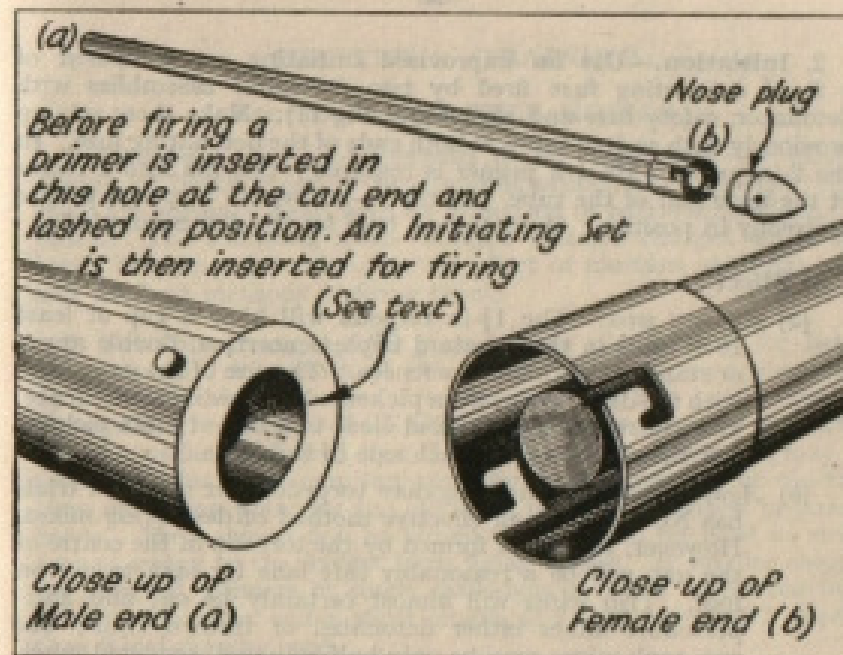

Fig 18. 2 in. bangalore torpedo, Mk. 1
1. Description (see Figs 18 and 19)
The 2-in torpedo formerly issued weighed 25 lb per 5-ft length. Owing to its weight it has now been replaced by the 1½-in. The 2-in torpedo may still be met in training and is illustrated in Fig 18.